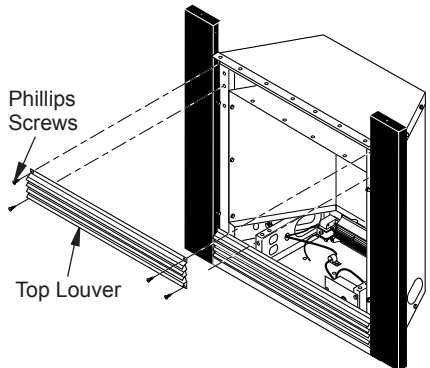

Figure 7 - Removing Louver
4. Using Phillips screwdriver, remove 4 screws attaching top louver (see Figure 7).